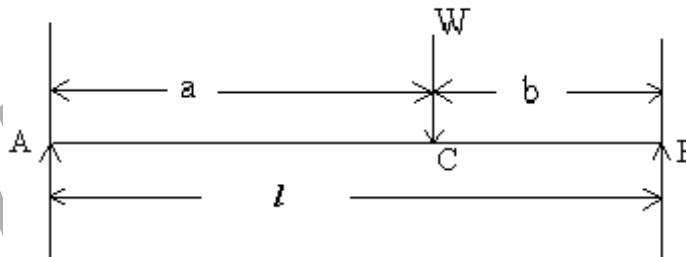

Figure 8
8. Find the central deflection of a simply supported beam shown in figure 8 by unit load method and loaded at a point distant ' a ' from A and ' b ' from B. [16]